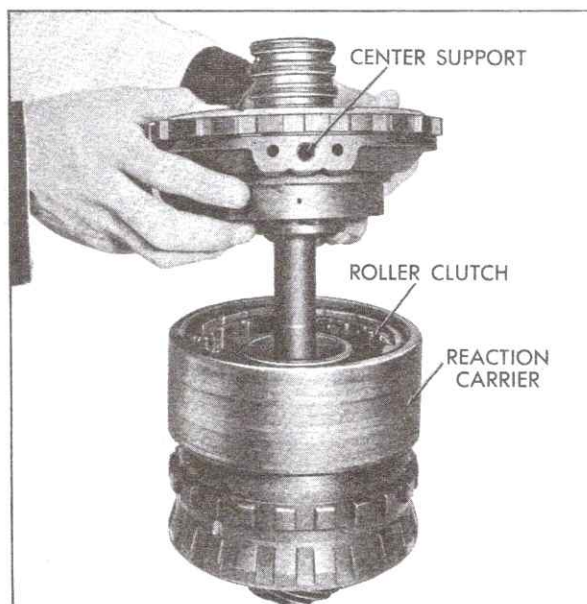

Fig. 7-178 Installing Center Support in Reaction Carrier
i. Install center support assembly into roller clutch in reaction carrier, Fig. 7-178.